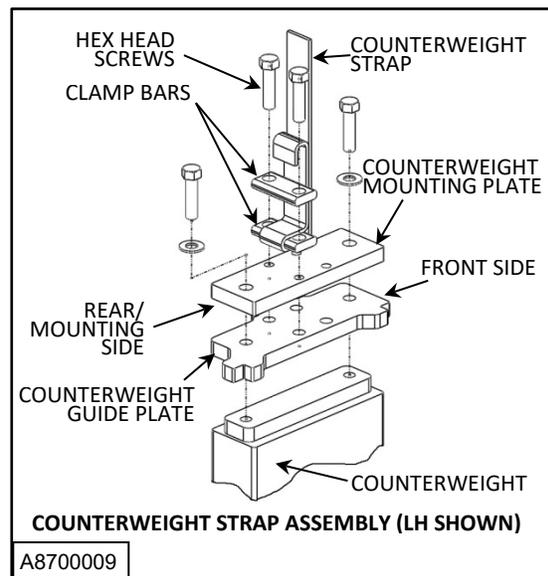

Figure 54
- Attach the new strap to the counterweight by routing the strap through the clamp bars in the same manner as the old strap. Tighten the hex screws to clamp the strap to the weight. (See Figure 54)